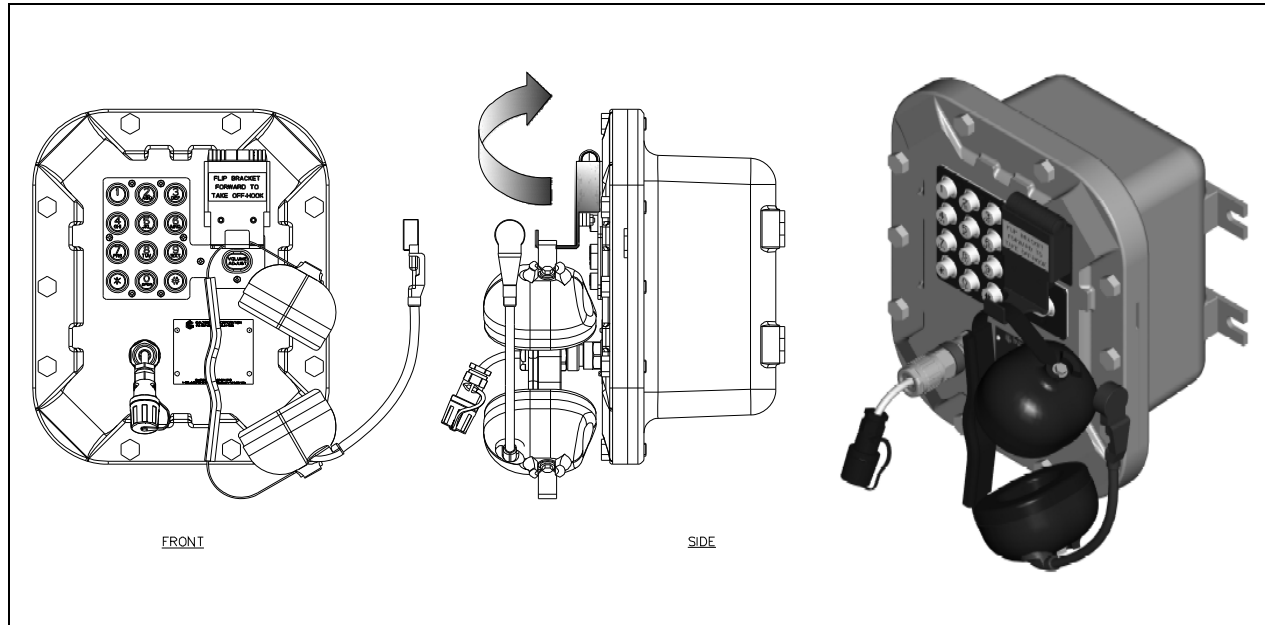

Figure 14.
1. To connect the headset, plug it into the flexible plug on the front of the telephone by removing the sealing cap from the receptacle, aligning the connector pins, and screwing the two ends together. See Figure 14.